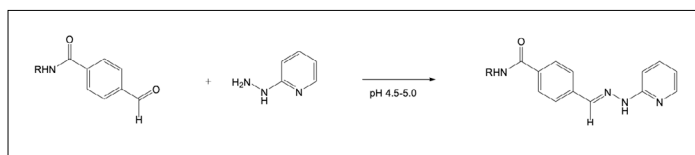

Figure 2: Colorimetric reaction used to quantify the number of 4FB linkers on a biomolecule.
1. The molar substitution ratio (MSR) can be determined using a colorimetric reaction outlined in Figure 2. Addition of 2-hydrazinopyridine to a 4FB-modified biomolecule yields a bis-aryl hydrazone that absorbs at 350 nm. Refer to the 4FB-Protein MSR Calculator or the 4FB-Oligonucleotide MSR Calculator as well as the protocol that is appropriate for your lab equipment: 4FB Oligo MSR Instructions or 4FB Protein MSR Instructions.